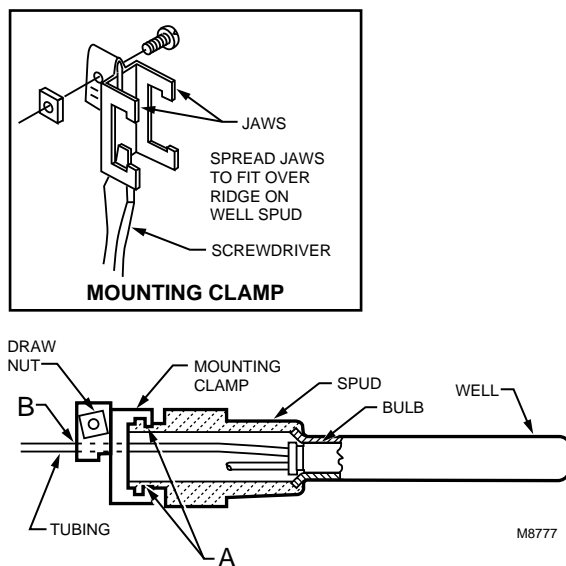

Fig. 5. Fastening bulb in well using mounting clamp.
1. Loosen the draw nut and spread the jaws of the clamp with a screwdriver. See Fig. 5.
2. Slide the clamp jaws over the spud mounting flange (point A in Fig. 5).
3. Adjust the tubing to fit through the mounting clamp groove (point B in Fig. 5).